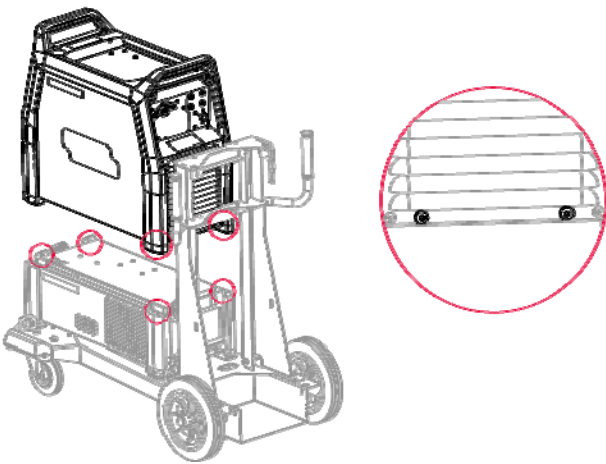

Figure 2
- Place the Speedtec on top of the cooler (Figure 2)